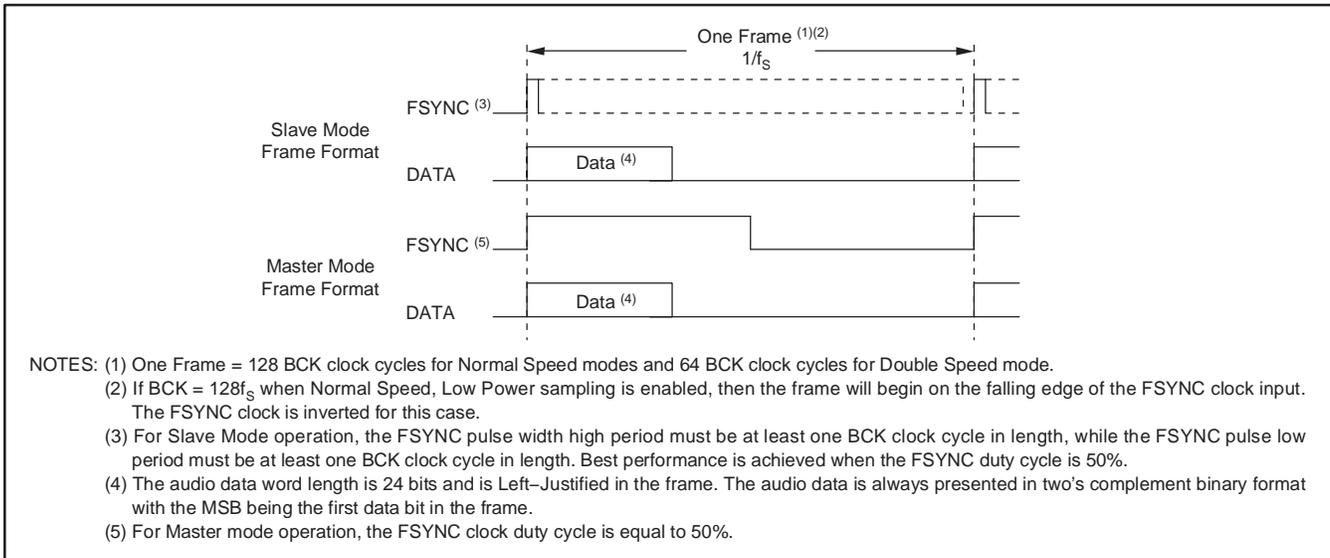
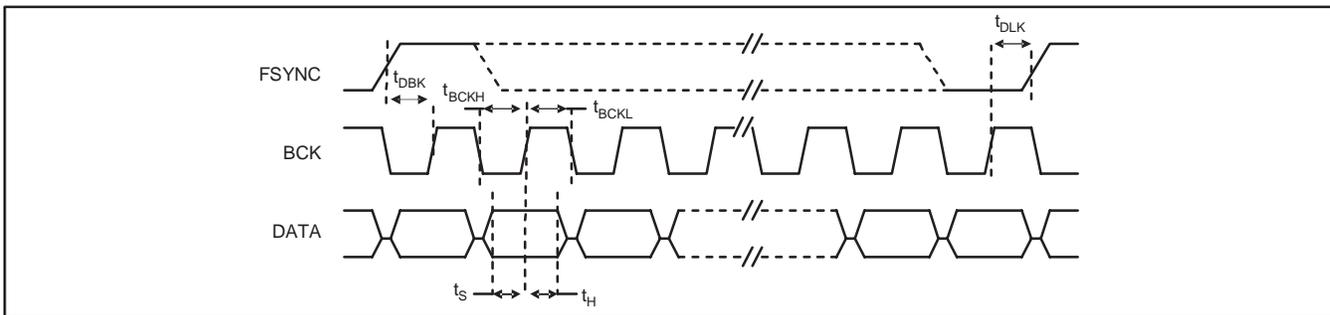
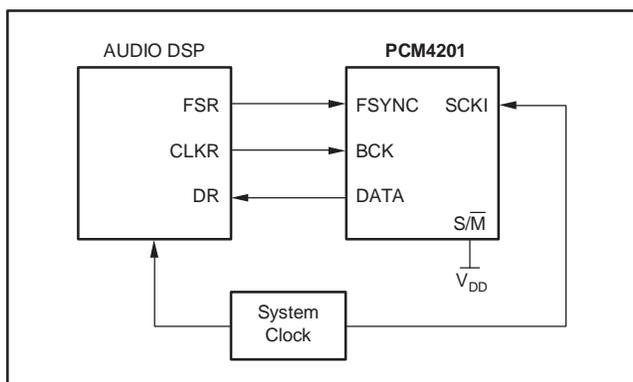

Figure 3. Audio Serial-Port Frame Format
Figure 4. Audio Serial-Port Timing
Figure 5. PCM4201 Slave Mode Configuration
The PCM4201 audio serial port is a 3-wire synchronous serial interface comprised of the audio serial data output, DATA (pin 9); a frame synchronization clock, FSYNC (pin 10); and a bit or data clock, BCK (pin 11). The FSYNC and BCK clocks may be either inputs or outputs, supporting either Slave or Master mode interfaces, respectively. The audio data format is 24-bit linear PCM, represented as two's complement binary data with the MSB being the first data bit in the frame. Figure 3 illustrates the audio frame format, while Figure 4 and the Electrical Characteristics table highlight the important timing parameters for the audio serial port interface.
Slave mode operation requires that the FSYNC and BCK clocks be generated from an external audio processor or master timing generator, as shown in Figure 5. Both clocks are inputs in Slave mode. The FSYNC clock rate is the equal to the desired output sampling frequency, f_S . The FSYNC high pulse width must be equal to at least one BCK clock period. The BCK clock rate should be $128f_S$ for Normal Speed, High Performance sampling mode. A BCK rate equal to $64f_S$ results in no output for this sampling mode. For Normal Speed, Low Power sampling mode, the BCK rate may be $64f_S$ or $128f_S$. See Note (2) in Figure 3 regarding the FSYNC edge used for start of frame when $BCK = 128f_S$ for this sampling mode. For Double Speed sampling mode, the BCK rate should be $64f_S$.
Changed order of notes in Figure 3 to accommodate new Note (2).